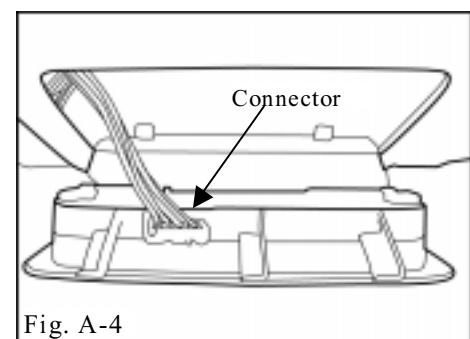

Fig. A-4
4. Disconnect connector from the overhead console and carefully store on a clean, padded surface. (Fig. A-4)